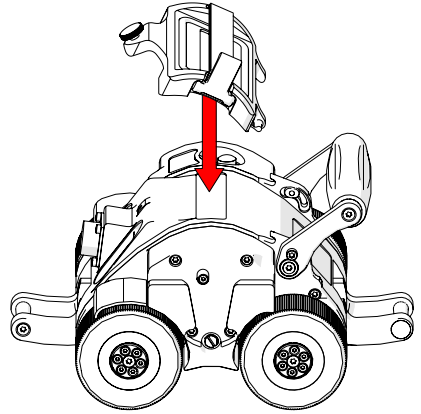

Fig. 62 - Angle backpack
1. Angle the backpack (Fig. 62) towards the notches found on the crawler (located near the base of the handle).